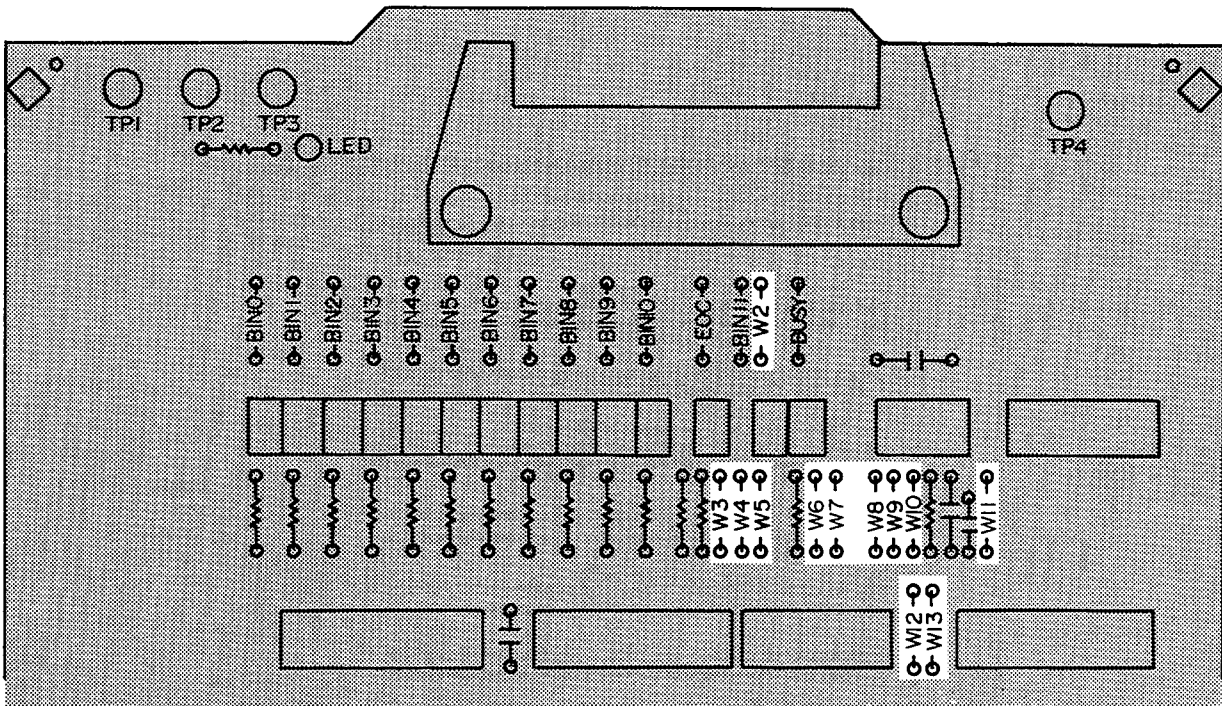
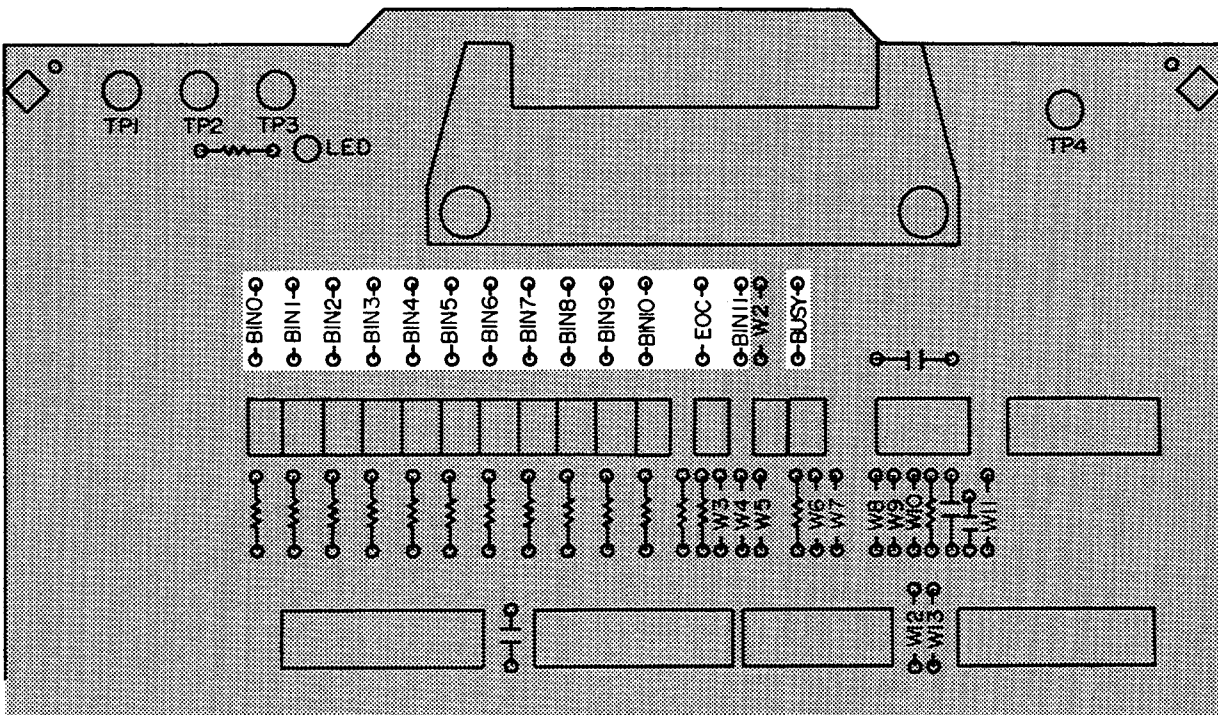
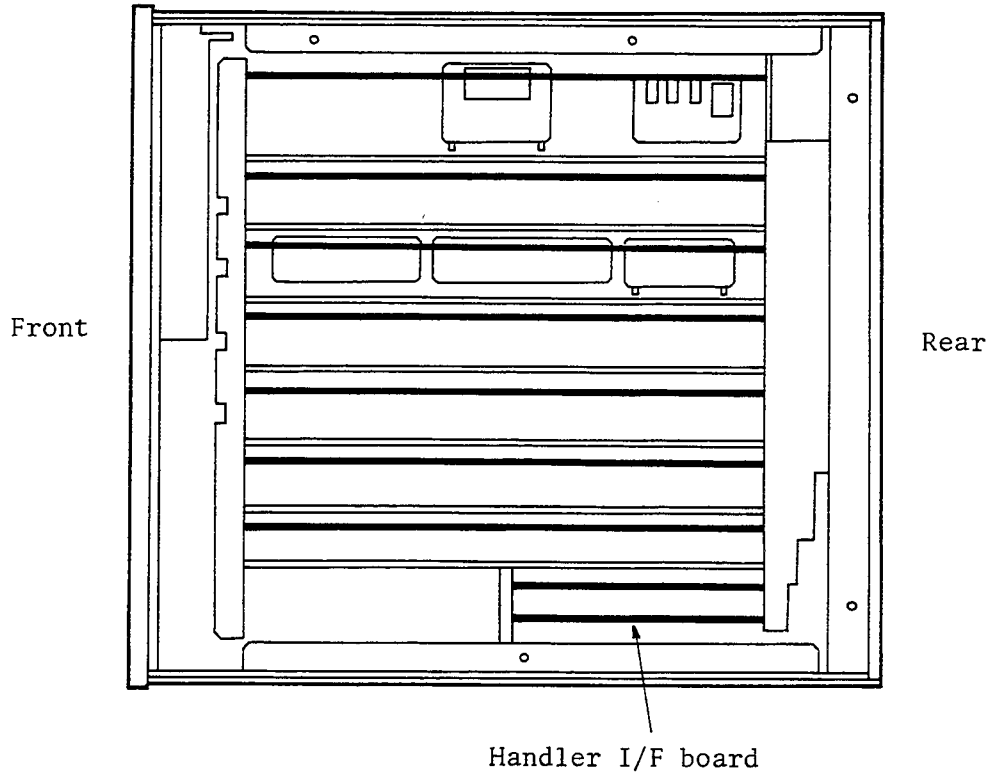

Figure 4-20. Configuration Jumper Locations
Figure 4-21. Pull-Up Resistor Locations
Figure 4-22. Handler Interface Board Location
Setting up the Option 202 Handler Interface board consists of installing jumpers and pull-up resistors as required. Table 4-14 lists the jumpers and pull-up resistors to install for various handlers on the market. Figure 4-20 shows the locations of the handler interface jumpers, Figure 4-21 shows the locations of the pull-up resistors on the handler interface board, and Figure 4-22 shows the location of the handler interface board in the 4278A.
The handler interface has **two Orange** extractors. Refer to Figure 4-22 for the location of the handler interface board.
7. If the comparison output signals are TTL levels signals and these signals are not pulled up by the handler, determine the pull-up resistor value (1.78K is recommended) and referring to Figure 4-21 for the locations of the BIN pull-up resistors, install the pull-up resistors.
8. If the control outputs (**EOC**, **BUSY**) are to be TTL level signals and these signals are not pulled up by the handler, determine the pull-up resistor value (1.78K is recommended) and referring to Figure 4-21 for the locations of **R112** (**EOC**) and **R113** (**BUSY**) install the pull-up resistors.
10. Use Figure 4-20 to locate the location of the required jumpers and install the jumpers.
12. Use Figure 4-20 to find the location of the required jumpers and install the jumpers.